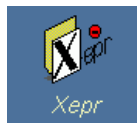

Figure 3-2 The Xepr program desktop icon.
3. **Start the Xepr Program.** Log onto the UNIX workstation. If you are unfamiliar with UNIX, please refer to Appendix A or Appendix B for UNIX tips. We recommend using the `xuser` user account which is set up by the Bruker service engineer when the spectrometer is installed. The initial password for this account is `user@xepr`. Double-click the Xepr icon on the desktop to launch the program. (See Figure 3-2.)